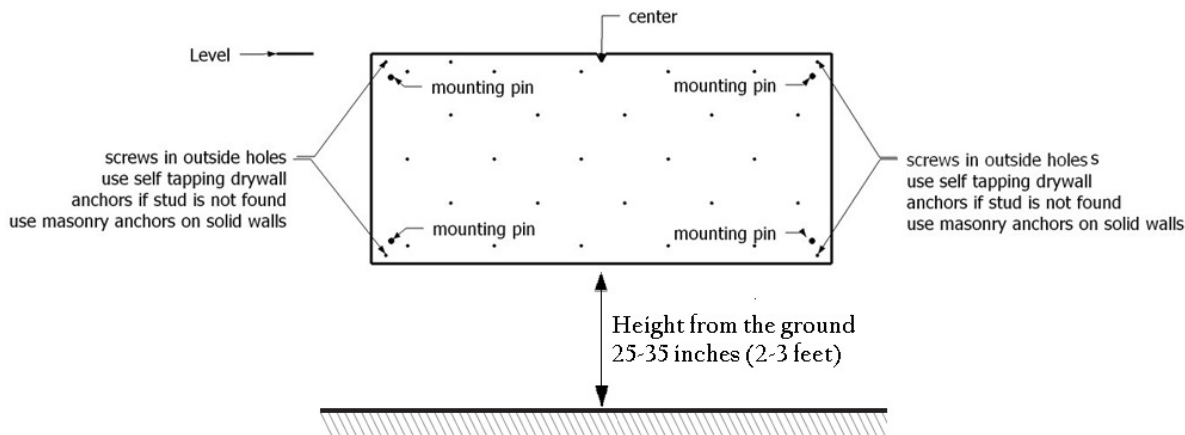

Figure 1
3. Place the Mounting plate along the horizontal line and line up the center “V” cut out with the center line. See Figure 1.
7. The mounting plate has four location pins, one at each corner of the plate. See Figure 1.